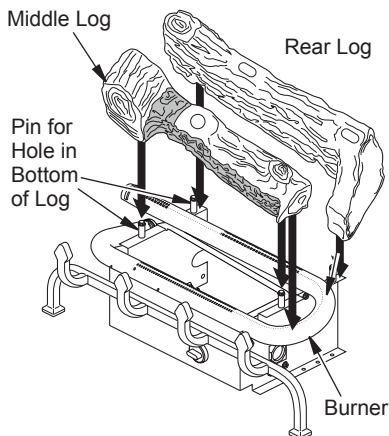

Figure 21 - Installing Rear and Middle Logs
1. Place rear log (#1) onto base. Holes in bottom of log must seat over pins on base as shown in Figure 21.
2. Place middle log (#2) onto base. Holes in bottom of log must seat over pins on base as shown in Figure 21.